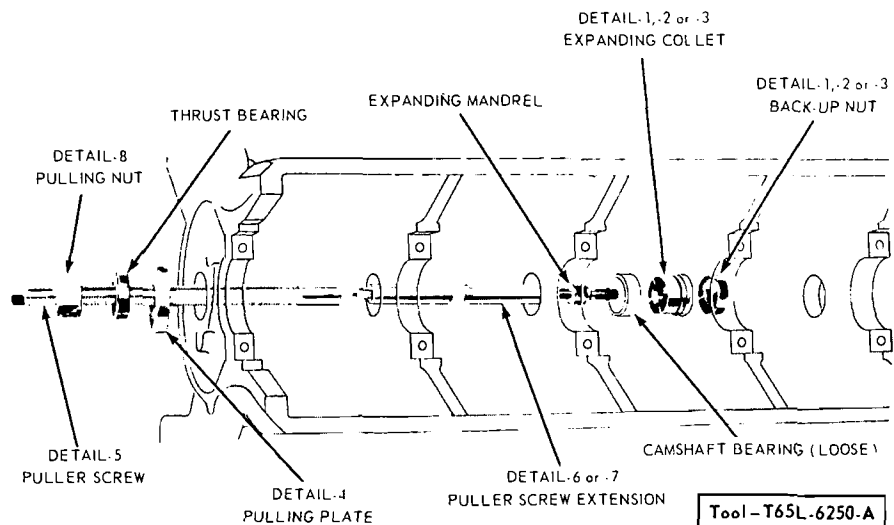

FIG. 64—Typical Camshaft Bearing Replacement
2. Remove the camshaft bearings with the tool shown in Fig. 64.
6. Position the new bearings at the bearing bores, and press them in place with the tool shown in Fig. 64. Be sure to center the pulling plate and puller screw to avoid damage to the bearing. **Failure to use the correct expanding collet can cause severe bearing damage.** Align the oil holes in the bearings with the oil holes in the cylinder block when the bearings are installed. **Be sure the front bearing is installed below the front face of the cylinder block to specifications. The rear has two oil holes and must be installed 24 3/4 inches from the face of the camshaft thrust plate surface.** Check the oil passage that feeds the rocker arm shaft for obstructions by squirting oil into the opening in the cylinder block and observing the flow through the oil hole at the rear camshaft bearing.
23. Remove the camshaft bearings (Fig. 64).